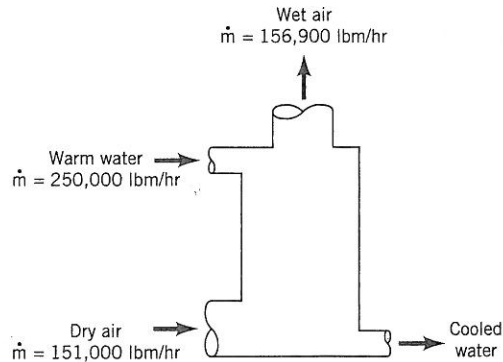

Figure P5.13
5.13 An evaporative cooling tower (see Fig. P5.13) is used to cool water from 110 to 80 °F. Water enters the tower at a rate of 250,000 lbm/hr. Dry air (no water vapor) flows into the tower at a rate of 151,000 lbm/hr. If the rate of wet airflow out of the tower is 156,900 lbm/hr, determine the rate of water evaporation in lbm/hr and the rate of cooled water flow in lbm/hr.